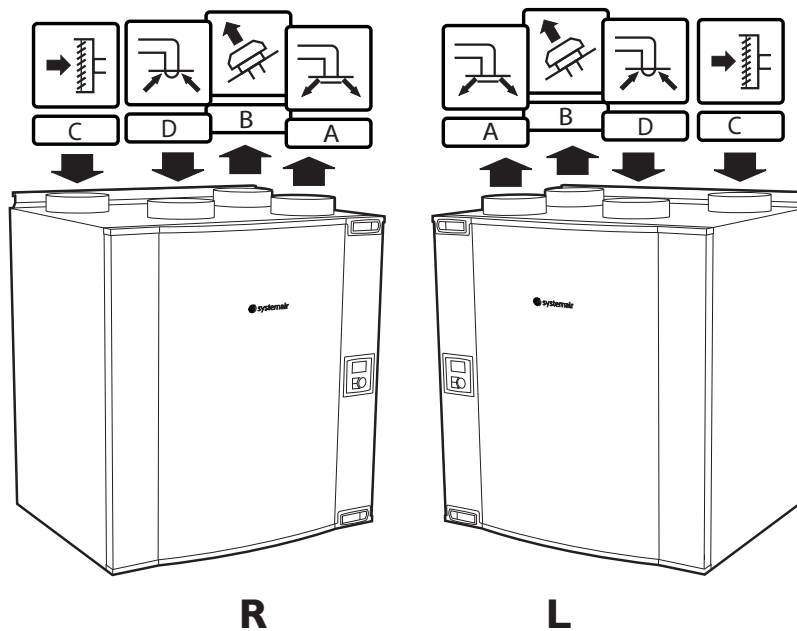

Fig. 1 Right and Left models
The SAVE VTC 300 is a heat recovery ventilation unit with a built in counter flow plate heat exchanger. There are two model options, right (R) and left (L) model (figure 1). The different models are recognized by the control panel which is situated on the right side of the unit in an (R) unit and on the left side in an (L) unit.
The control panel is built into the unit on either the left or right hand side panel sections of the VTC 300. The control panel is always situated on the same side of the unit as the supply air connection (figure 1)